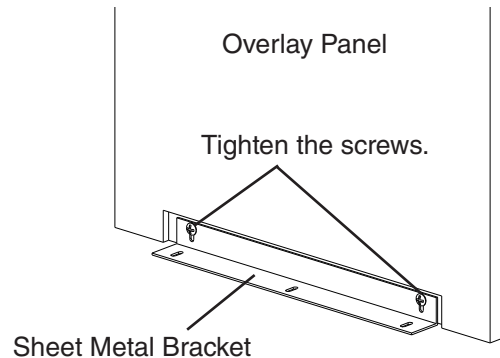

**Fig. 14**
- 2) Temporarily fasten the overlay panel to the door using 2 of the M4×25 pan head screws provided. See Fig. 14.